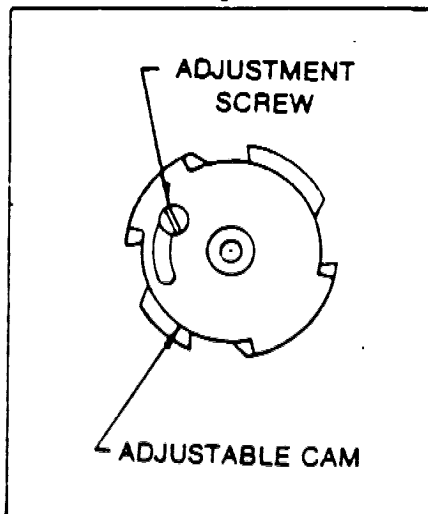

Fig. 3
5. To dispense cans, adjust cam (on Vend Motor) to four (4) notches as shown Fig. 3.